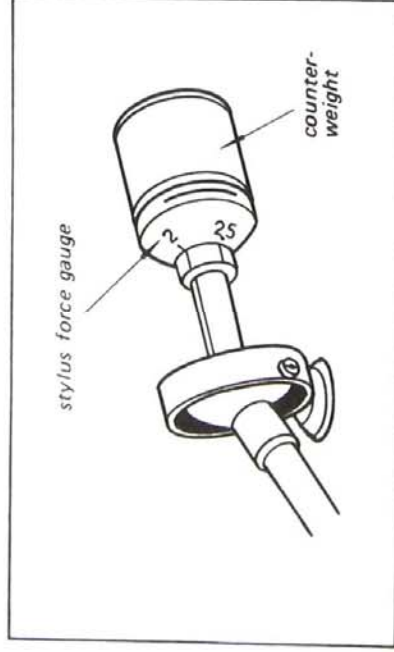

Fig. 3-5. Stylus force adjustment
Adjust the stylus force by turning the counter weight to obtain "2 g" reading on the stylus force gauge as shown in Fig. 3-5.
1. Turn the counterweight counterclockwise to obtain the "2 g" reading stylus force gauge as shown in Fig. 3-5.